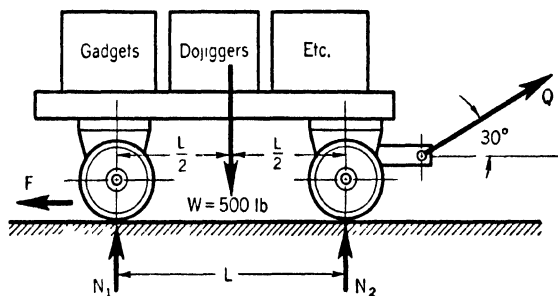

FIG. 400. NET WORK
We can now make use of that truck again (Fig. 400). On page 480, we found that for $Q = 100$ lb., $F = 50$ lb., $W = 500$ lb., and $b = 30^\circ$, the resultant $R = 36.6$ lb. Since the resultant force
1. The truck of Fig. 400 is moved 20 ft. while the frictional resisting force $F = 50$ lb. What is the work done to overcome friction? *Ans.* 1000 ft-lb.
4. In Fig. 400, $Q = 80$ lb. and $F = 50$ lb. The truck is brought to a speed of 3.72 ft. per sec. from rest. How far does the truck move during this period. (See problem 1, page 480.) *Ans.* 5.58 ft.